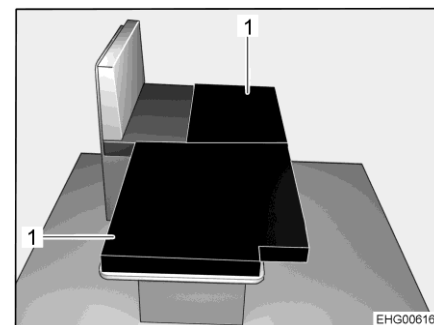

Fig. 49 After conversion
- Place the two additional cushions (Fig. 49,1) on the lowered table as shown in the image.